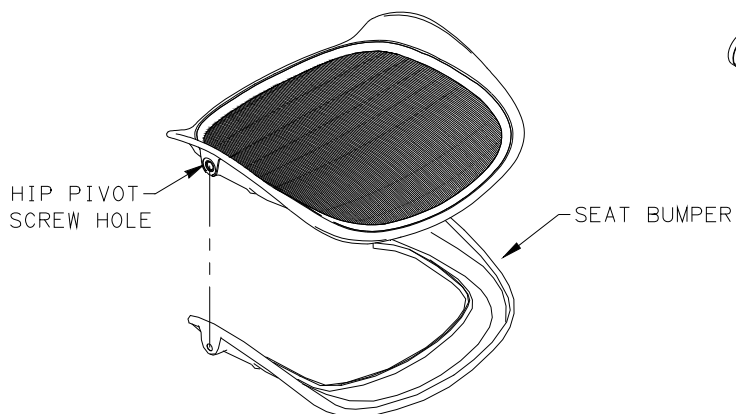

FIGURE 4
3. INSTALL SEAT BUMPER AROUND EDGE OF SEAT FRAME, BEING CERTAIN THAT BUMPER SNAPS SECURELY OVER EDGE IN ALL LOCATIONS AND THAT HOLES IN BUMPER ALIGN WITH HIP PIVOT SCREW HOLES IN SEAT FRAME. SEE FIGURE 4.